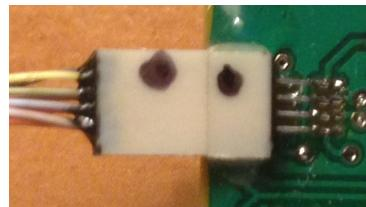

Figure 13: Alignment of Omnetics connectors. Dot aligns to dot
- j. The desired Interface Board (Omnetics to DSUB) can be plugged into the inputs of the WHISPER Breakout Box (See Modularity Section for more details). Corresponding Omnetics cables should also be plugged into the headstages. Please note there is a small dot on each gender of the connectors, please make sure these are aligned to each other (Figure 13). Failure to do so could damage the amplifiers.